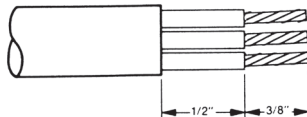

Figure 2. Cable Insulation
5. Strip outer cord jacket and then conductor insulation to dimensions shown in Figure 2.